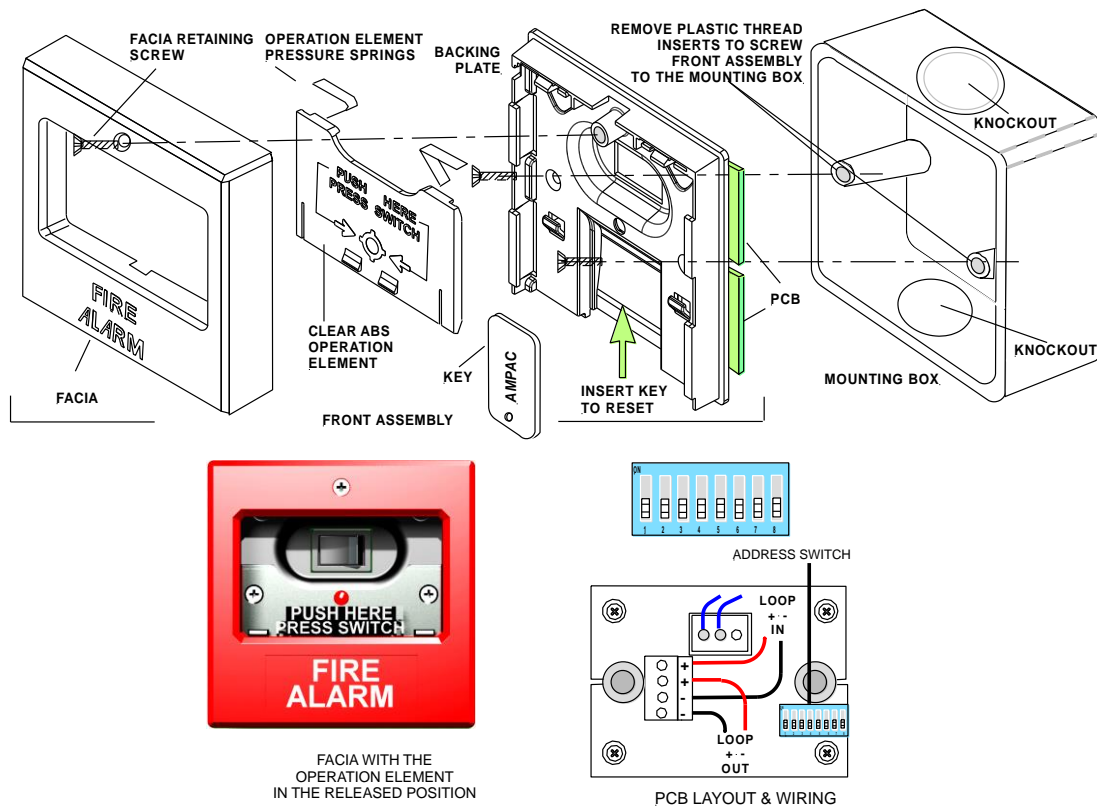

Figure 1: General Wiring Diagram
1. Locate the mounting box over a flat surface and secure with at least two (2) screws tightened evenly to prevent distortion
3. Terminate cables (See Figure 1)